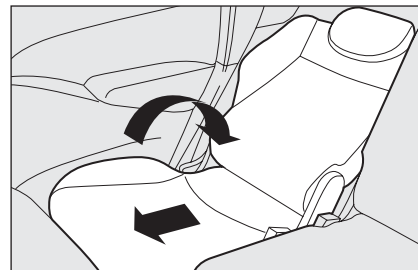

fig. 47
- recline the rear seat backrest to the required position **fig. 47**.